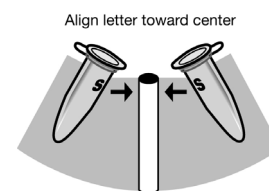

Figure 2. Orientation of columns in a fixed-angle rotor.
- For the anion (Q) columns: Ensure the buffer pH is above the protein's isoelectric point and the sample does not contain anionic detergents. For purifying the sample, use a buffer with a pH from 5 to 10 and a salt concentration at ≤ 25 mM. For elution, use step-wise salt gradient to a final salt concentration of 2 M.
- For the cation (S) columns: Ensure the buffer pH is below the protein's isoelectric point and the sample does not contain cationic detergents. For purifying the sample, use a buffer with a pH from 3 to 8 and a salt concentration at ≤ 25 mM. For elution, use step-wise salt gradient to a final salt concentration of 2 M.
- Fixed-angle rotors: To achieve even liquid flow through the membrane using a fixed-angle rotor, align the letter printed (e.g., Q, S) on the column toward the rotor center for all chromatography steps (Figure 2).